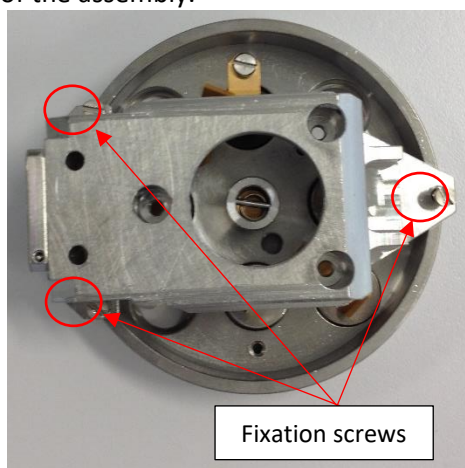

*Figure 277: all samples are held tight with a copper strip so that they wouldn't move.*
- Screw the copper strips in order to block the samples (Figure 277).